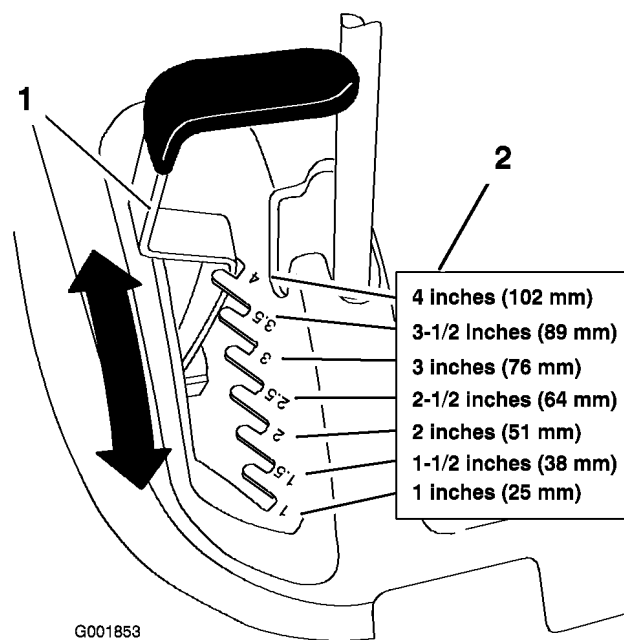

Figure 12
1. Raise the height-of-cut lever to the transport position (also the 4 inch (108 mm) cutting height position (Figure 12).
2. To adjust, pull up on the height-of-cut lever and move it to the desired position (Figure 12).